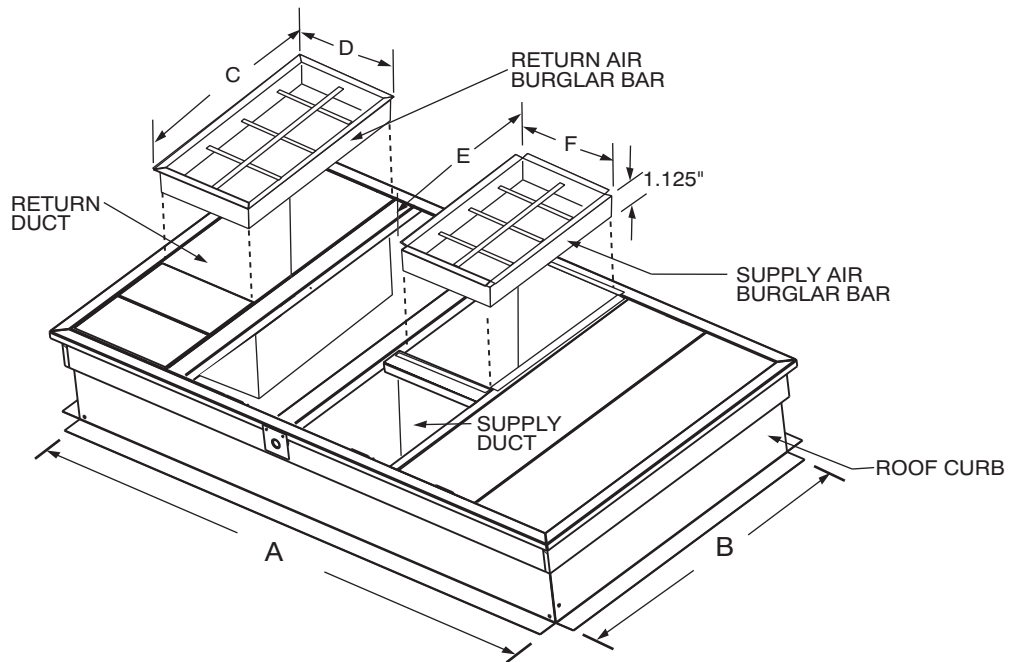

Fig. 1 - Burglar Bar Installation
2. Install the ductwork. Ductwork dimensions should be the same as the supply and return air openings in the roof curb. (See Fig. 1.) Refer to the unit installation instructions for more information.
3. Slide the supply air burglar bars into the supply air ductwork. The burglar bars will hang from the top of the roof curb. (See Fig. 1.)
4. Slide the return air burglar bars into the return air ductwork. The burglar bars will hang from the top of the roof curb. (See Fig. 1.)